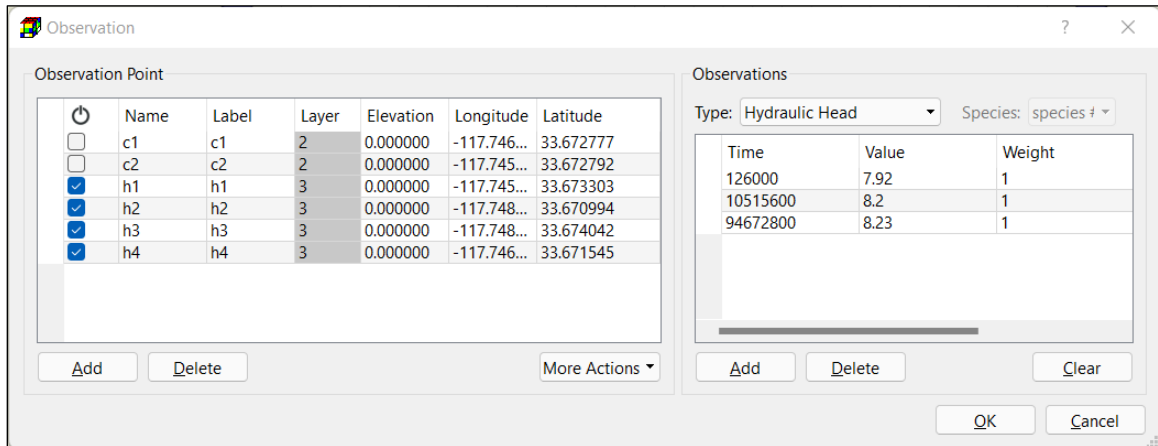

Figure 32. The Observation dialog box
2. Remove an observation point: Right click on the observation point in the Map Viewer to open the Observation dialog box (Figure 32), and then click Delete in the dialog box to delete the selected point.
4. Enter/Edit observation data: The Observation dialog box (Figure 32) can be used to enter and/or edit observation data. This dialog box can be opened by either right-clicking on an observation point in the Map Viewer or by right-clicking on the Observation Points group on the TOC, and then selecting Edit Data. The features of the dialog box are as follows.